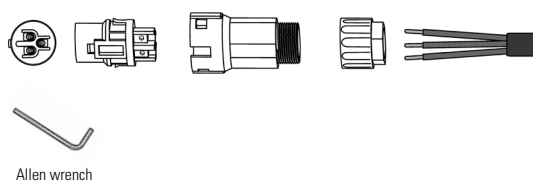

Fig. 29. Inserting the bare wire into the terminal.
- Insert the stripped end of the three cables into the corresponding hole of the terminal head (yellow-green cable into the PE port, phase into the L port and neutral into the N port). Pull from the cable to check that it is properly connected, as shown in Fig. 29: